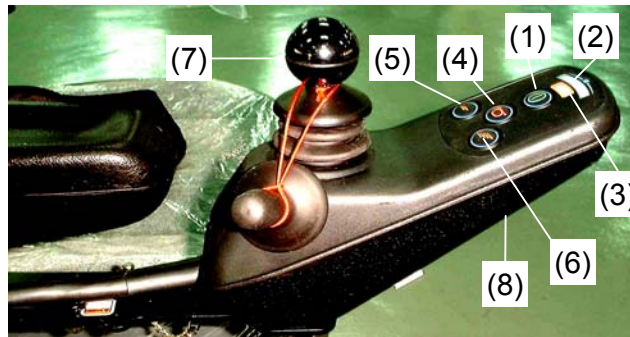

Fig. 14
- STEP 1** Set the Maximum Speed Indicator at 3 (recommended) by adjusting the Speed Increase / Decrease Button (Fig.14).